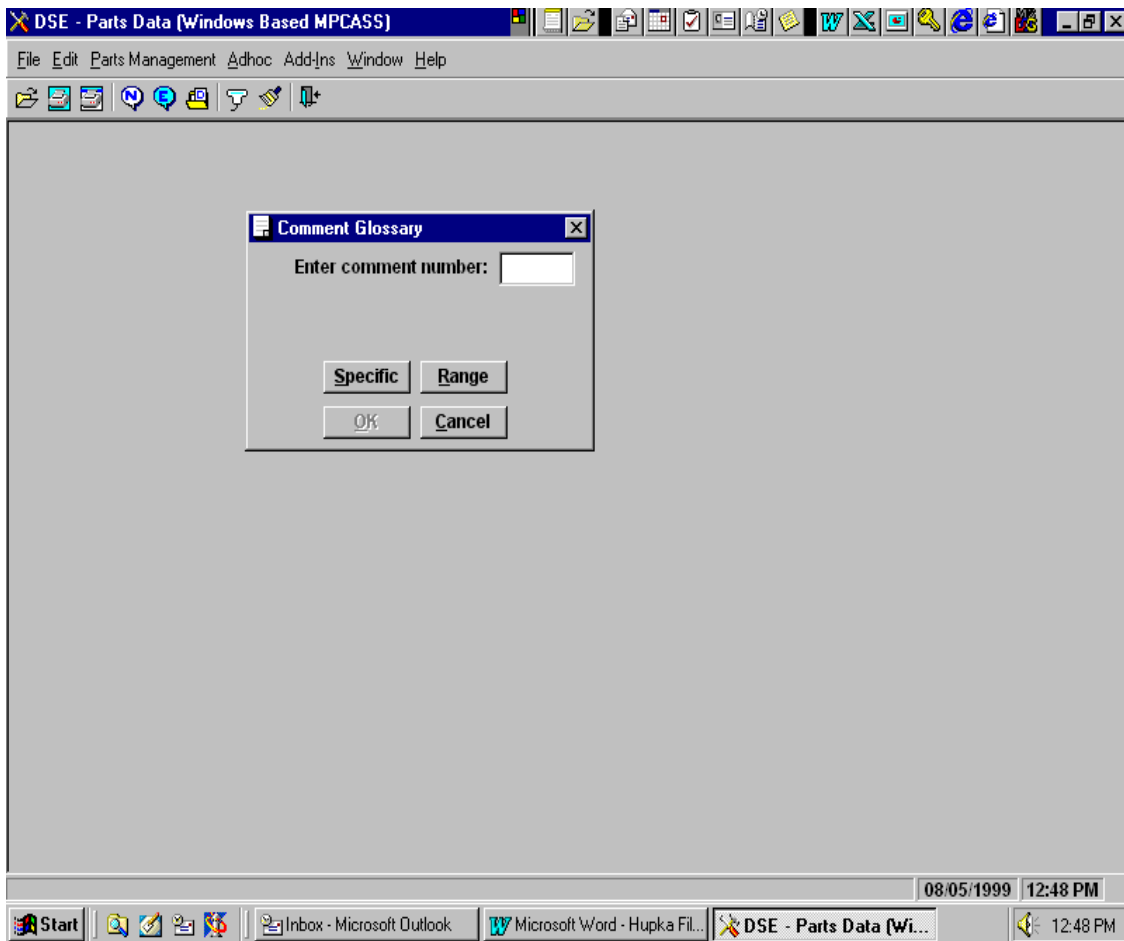

Figure 4.10c - COMMENT GLOSSARY INTERROGATION, SPECIFIC COMMENT
b. For viewing a specific comment, enter the number of the comment you wish to view. Click on SPECIFIC button first, if necessary. See Figure 4.10c.